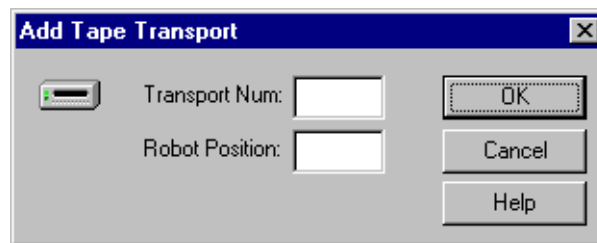

Figure 47. Add Tape Transport dialog box
3. Click the **Add** button. The Add Tape Transport dialog box appears, as shown in Figure 47.